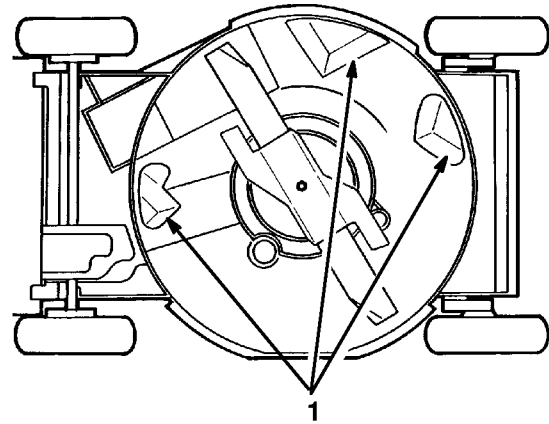

Figure 26
To ensure best performance, keep underside of mower housing clean. Be especially careful to keep kickers free of debris (Fig. 26).
3. Tip mower on its left side (Fig. 26).